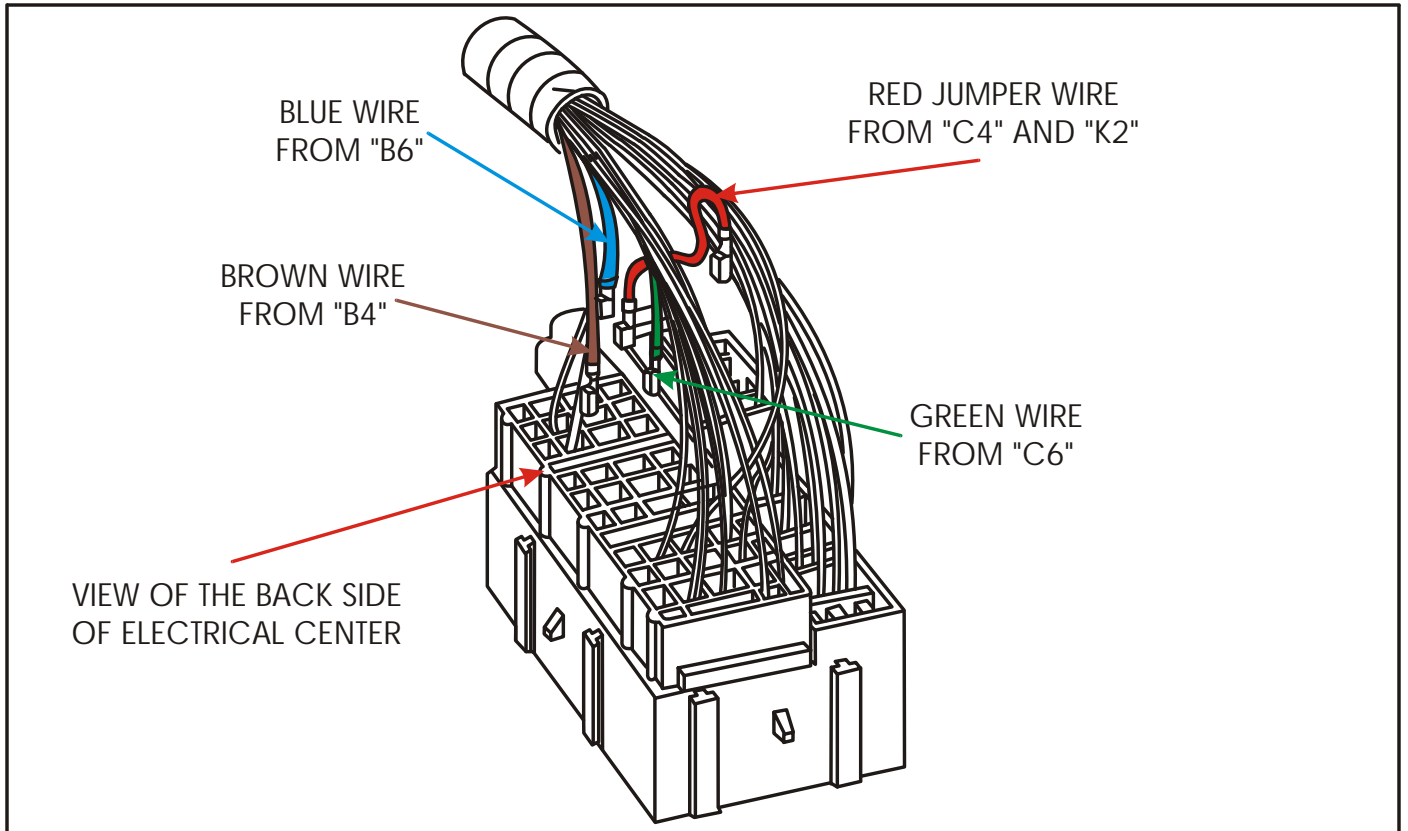
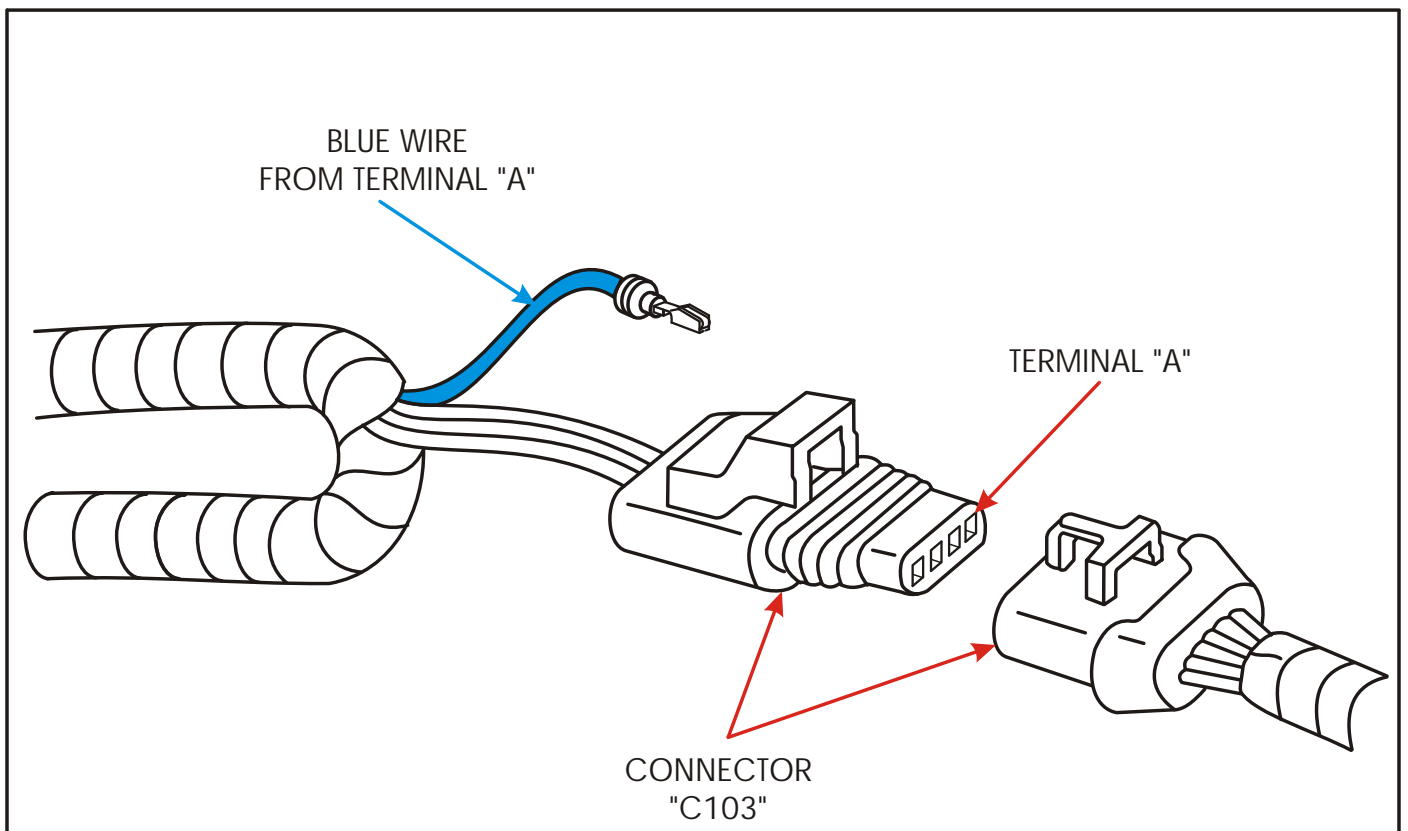

Figure 3
Figure 4
- (5) From the back of the Electrical Center, as shown in Figure 3:
- (A) Remove the 10 gauge "Red" jumper wire and terminals from cavities "K2" and "C4", and discard this jumper wire.
- (B) Remove the 10 gauge "Blue" wire and terminal from cavity "B6". Cut off the terminal end and discard, and tape the wire end.
- (C) Remove the 22 gauge "Brown" wire and terminal from cavity "B4", and the 22 gauge "Green" wire and terminal from cavity "C6". These wires will be reused in step seven.
- (6) Locate connector number "C103", located just in front of the Electrical Center, as shown in Figure 4. Unplug the connector and remove the "Blue" 10 gauge wire and terminal from cavity "A". Cut off the terminal end and discard, and tape the bare end of the wire.